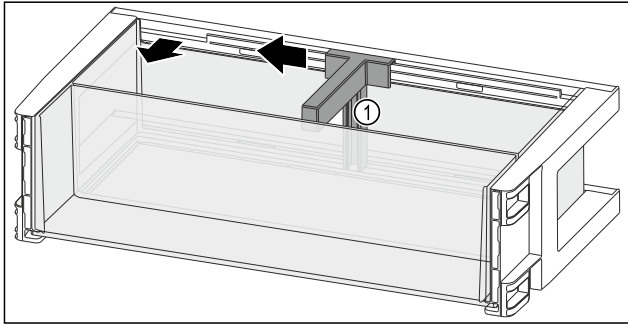

Fig. 147
- Push the bottle holder Fig. 147 (1) to the side up to the recess.
- Remove the bottle holder Fig. 147 (1).